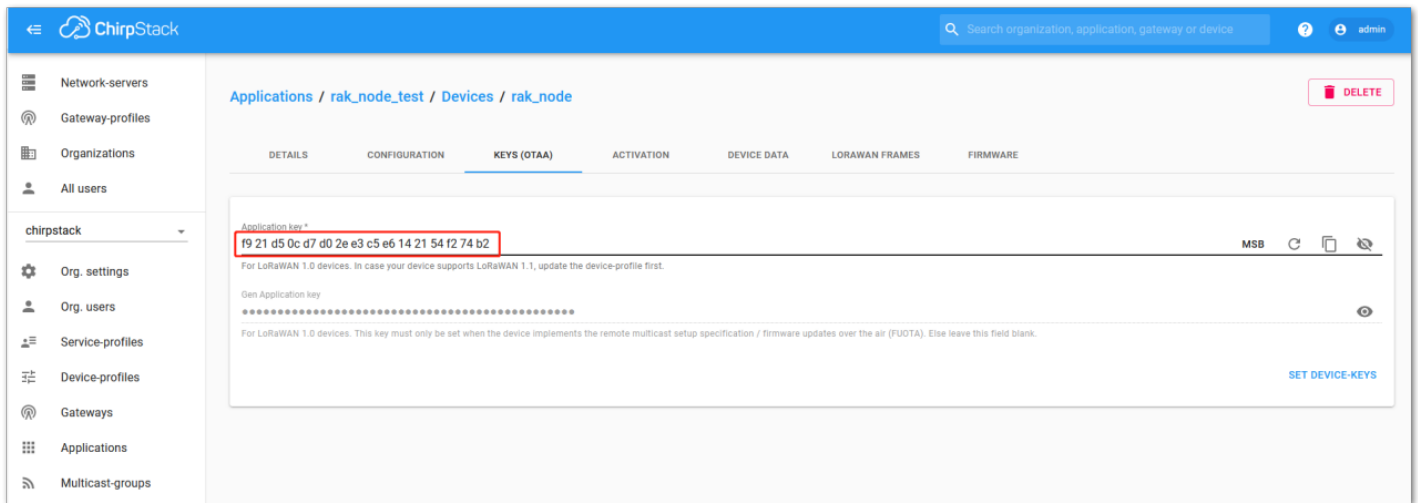

Figure 217: Application Key Associated with the New Device
4. To end the process, it is a good practice to review that the Application Key is properly associated with this device. The Application Key can be verified in the **KEYS (OTAA)** tab, as shown in **Figure 217**.